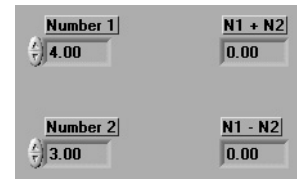

Figure 3.47
10. You may have to use the Positioning tool to reposition some of the terminals as shown in Figure 3.47. Then use the Wiring tool to wire the terminals together. First select it from the **Tools** palette; then click once on the DBL terminal and once on the appropriate terminal on the **Add** function to draw a wire. A solid orange line should appear. If you mess up and get a dashed black line instead of a solid orange one, select the wire fragment with the Positioning tool and hit the <delete> key; then try again. Click once and release to start the wire, click any time you want to add a new segment (which turns a corner), and click on a destination to finish the wire.